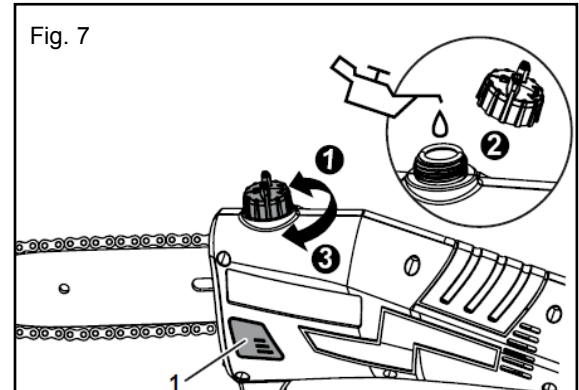

Fig. 7
- Slowly unscrew the tank cap, remove it and save it (Fig 7 ①).
- Fill carefully with chain lubricating oil to about 0.4" (10mm) below the bottom edge of the filler (Fig 7 ②).
- Replace the tank cap and screw it tight (Fig 7 ③).